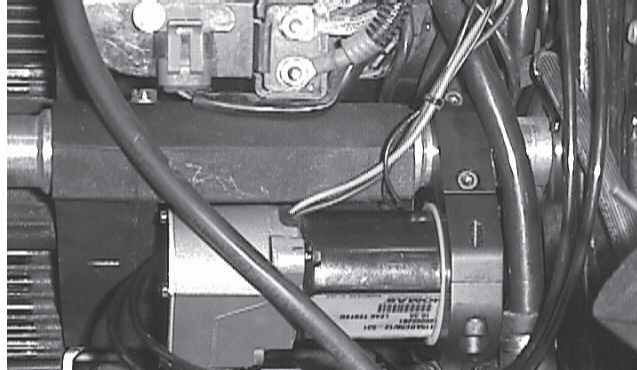

Figure 4
13. Install compressor onto pivot shaft, feed orange wire with fused connection up to the battery positive area. Do not connect yet. (Fig. 4)
Note: If you are installing this system on a California model Softail equipped with a factory emissions control canister assembly (part number 27042-84A), it is necessary to relocate this assembly. It occupies the space needed to mount the compressor. (Fig. 4)